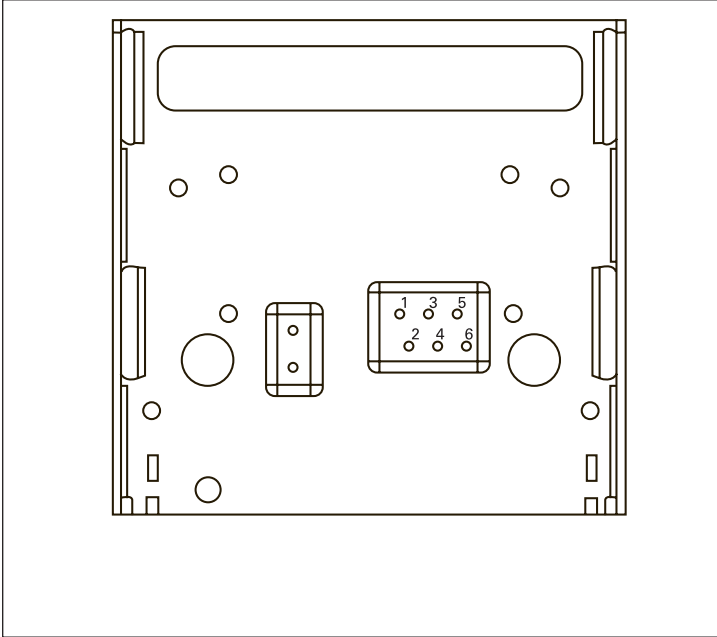
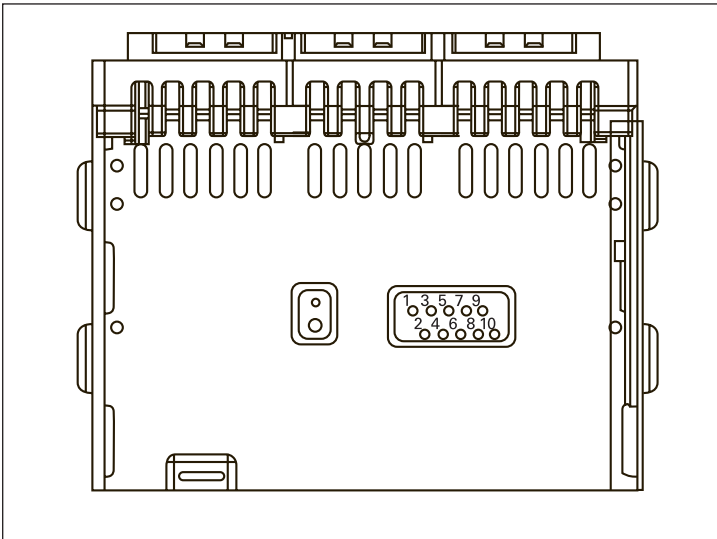

Figure 5. NF cassette pin locations.
Figure 6. RF cassette pin locations.
Step 2: Locate the already tapped holes in the already mounted interlock plate located on the floor of the cassette identified with the numbers 1, 2, 3, 4, 5, and 6 (Figure 5) for the NF frame cassette, and 1, 2, 3, 4, 5, 6, 7, 8, 9 and 10 (Figure 6) for the RF frame cassette.